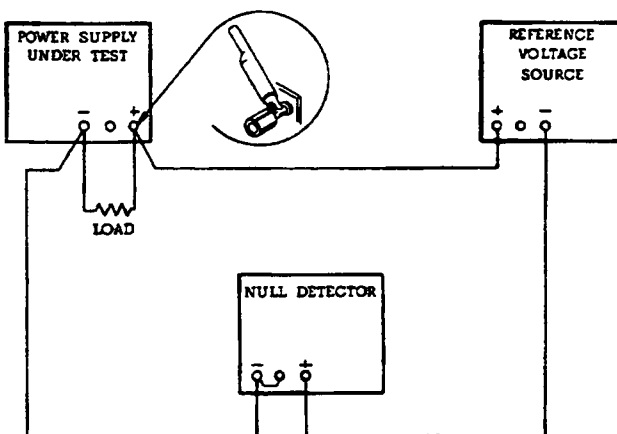

Figure 5-3. Differential Voltmeter Substitute, Test Setup
A satisfactory substitute for a differential voltmeter is to arrange a reference voltage source and null detector as shown in Figure 5-3. The reference voltage source is adjusted so that the voltage difference between the supply being measured and the reference voltage will have the required resolution for the measurement being made. The voltage difference will be a function of the null detector that is used. Examples of satisfactory null detectors are: ④ 419 A null detector, a DC coupled oscilloscope utilizing differential input, or a 50 mv meter movement with a 100 division scale. For the latter, a 2 mv change in voltage will result in a meter deflection of four divisions.